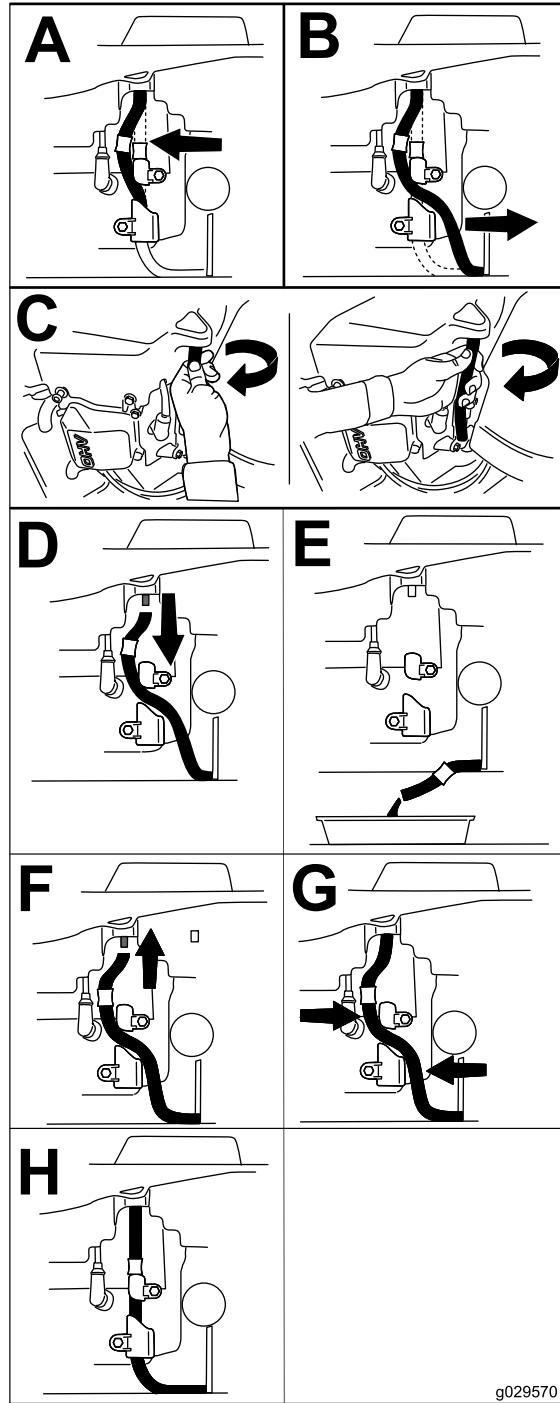

Figure 46
4. Drain the engine oil (Figure 46).